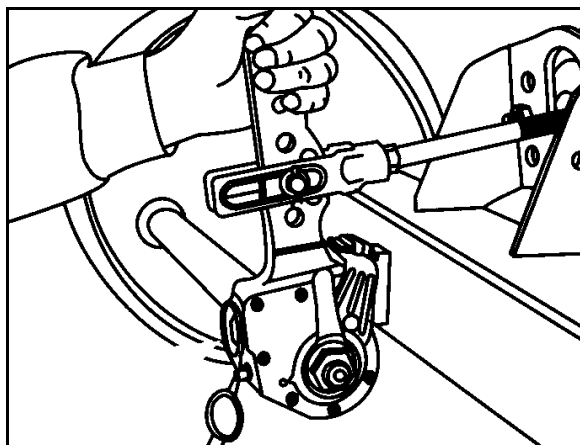

Fig. 88
2. Slacken the adjusting screw (arrow) with a ring spanner (Fig. 88) approx.  $\frac{3}{4}$  of a turn anti-clockwise. There must be free travel of at least 50 mm for a lever length of 150 mm.